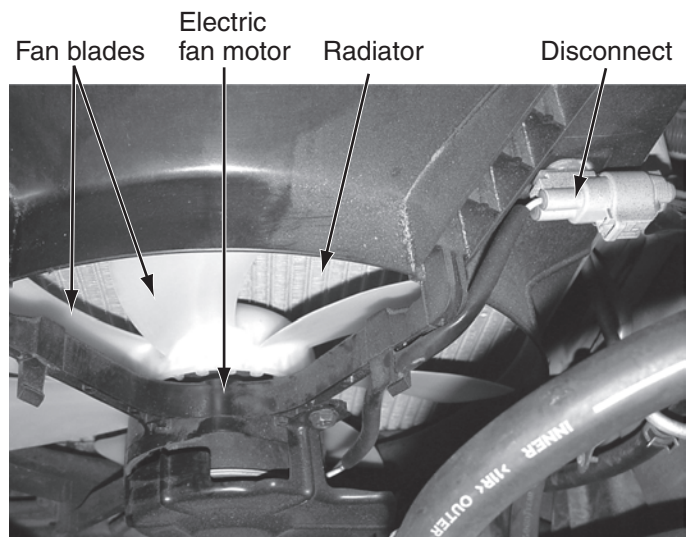

FIGURE 2.18 Disconnect the power to an electric cooling fan before working on it. (Courtesy of Tim Gilles)
- Disconnect electric cooling fans when working around them (**Figure 2.18**).